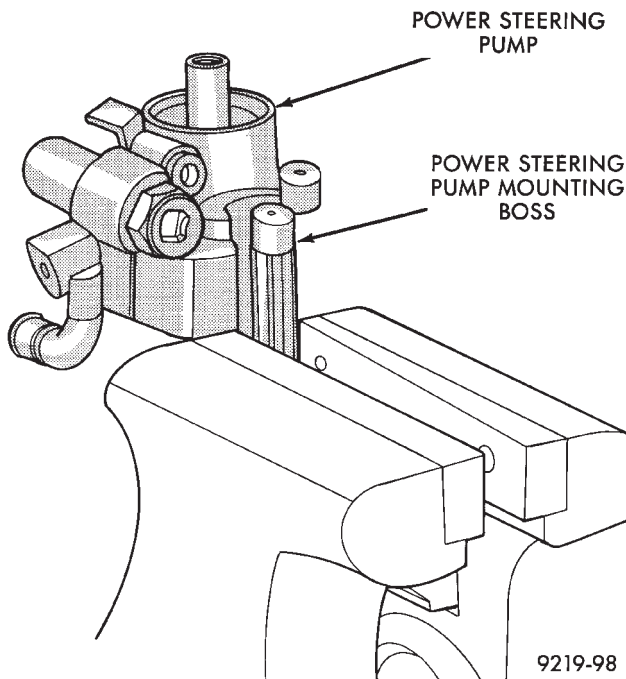

Fig. 3 Power Steering Pump Mounted In Vise
(1) Mount power steering pump assembly in a vise using one of the pump mounting bosses (Fig. 3). **Do not clamp the body of the power steering pump in vise.**